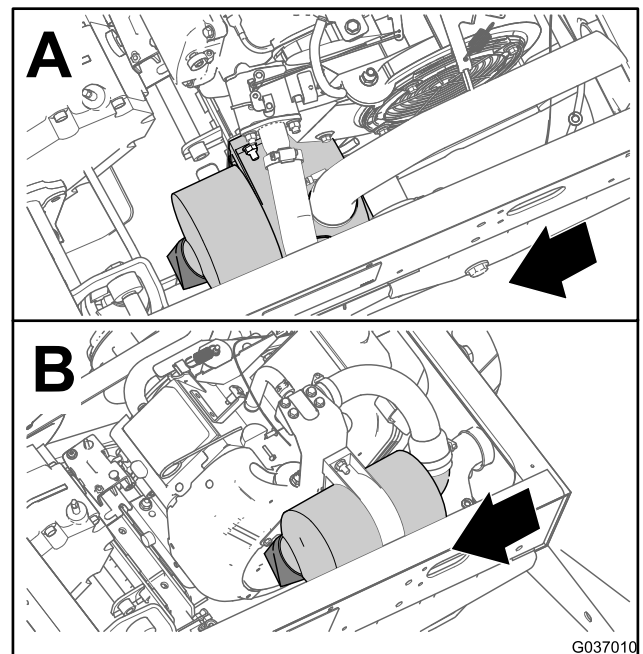
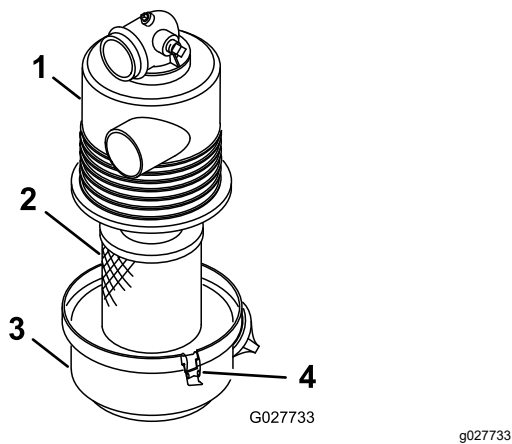

Figure 32
Figure 33
2. Check the air-cleaner body for damage which could possibly cause an air leak (Figure 32 and Figure 33).
3. Insert the air-filter element into air-filter housing (Figure 33).
4. Align the air-cleaner cover with the air-cleaner housing (Figure 33).
5. Secure the cover to the housing with the latches (Figure 33).
3. Release the latches securing the air-filter cover to the air-filter housing (Figure 33).
4. Separate the air-filter cover from the air-filter housing, and clean the inside of the cover (Figure 33).